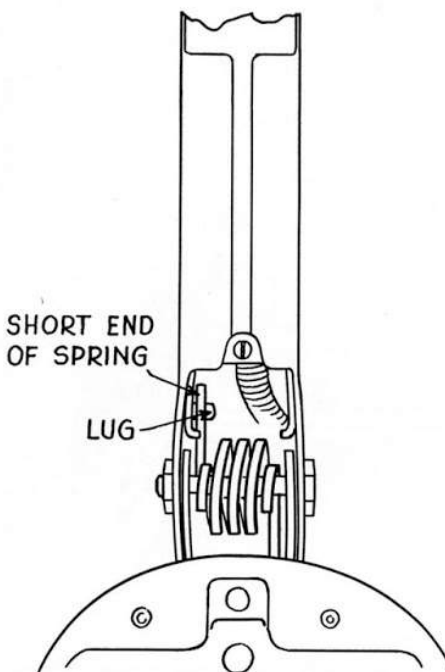

FIG. 131—Handle socket, Models 27-28-80 and 305
- b. Remove upper handle bracket shaft and nut from handle socket and lift out the handle control spring. (When re-assembling, place the short end of the handle control spring uppermost and each end against one of the retaining lugs inside the socket. Figure 131).